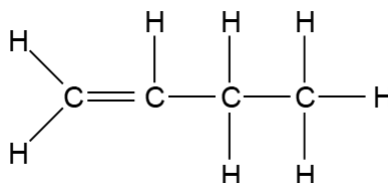

Fig. 9.1
- 9 Butene is an unsaturated hydrocarbon formed from the catalytic cracking of the diesel and lubricating oil fractions. It is an important petrochemical feedstock for other synthetic materials such as plastics and rubber. The structure of butene is shown in Fig. 9.1.